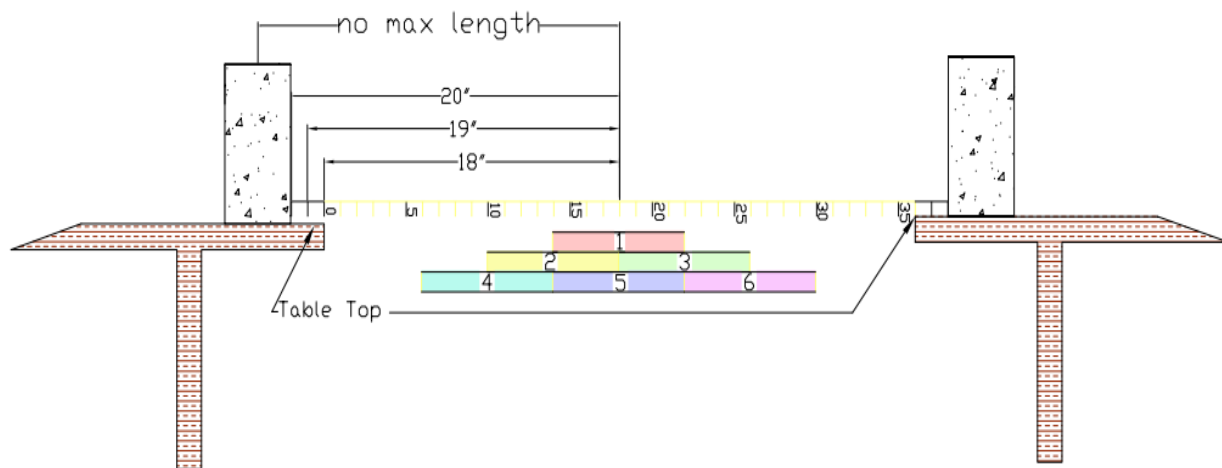

Figure 7: Possible Loading Positions
4. The roadway/loading surface must be provided at all potential wheel support locations (refer to Figure 7). Since the truck that is loaded has “wheels” that are each 2” wide, the roadway shall have enough material to prevent the wheel from falling through. There should not be any obstructions that would prohibit the truck from “driving” across the bridge span.
2. The truck will be placed on the loading surface at a random point (as shown in Figure 7) that will be determined by the roll of a die at the beginning of the competition and will remain the same for all teams throughout. A load transfer bar will be placed across the top of the truck with chains connected at each end extending downward to connect to a loading platform beneath the structure. Each student will then load their own structure by placing the supplied weights onto the loading platform until failure.